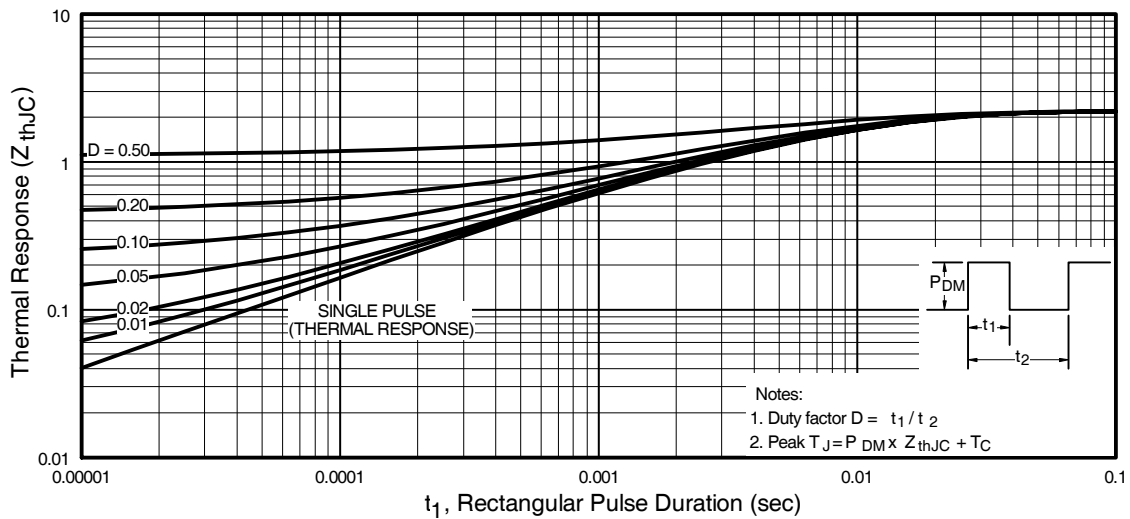

Fig 11. Maximum Effective Transient Thermal Impedance, Junction-to-Case
① Repetitive rating; pulse width limited by max. junction temperature. (See fig. 11)
② Starting $T_J = 25^\circ\text{C}$, $L = 3.6\text{mH}$